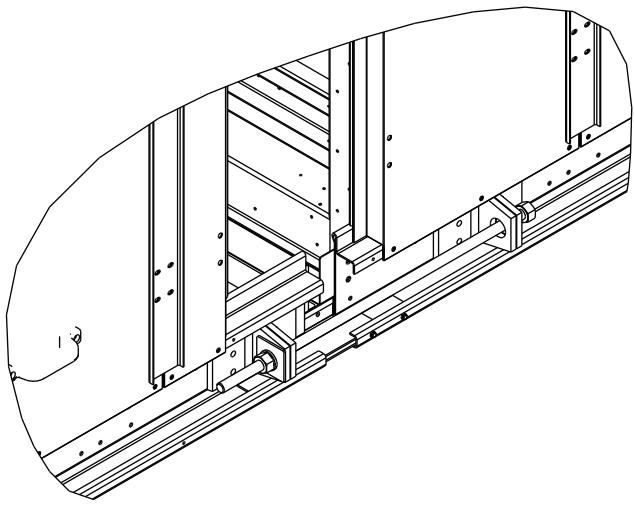

Fig. 55 — Secure Base Rails
10. Using $\frac{3}{4}$ -in. x 30-in. threaded rod, nuts, washers and backing plates provided, pull and secure the base rails together. See Fig. 55.